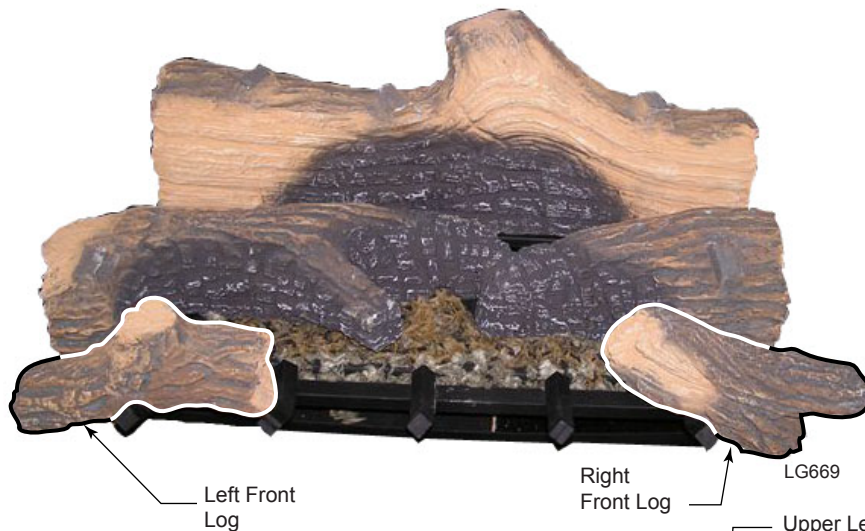

Figure 62 -
- Place the front left log by setting the notch on the bottom of the log on the very far left tong of the grate, and resting the right end of the log onto the second left tong of the grate. *Figure 62*
- Place the front right log by setting the notch on the bottom of the log on the very far right tong of the grate and resting the log on the leg of the grate. *Figure 62*